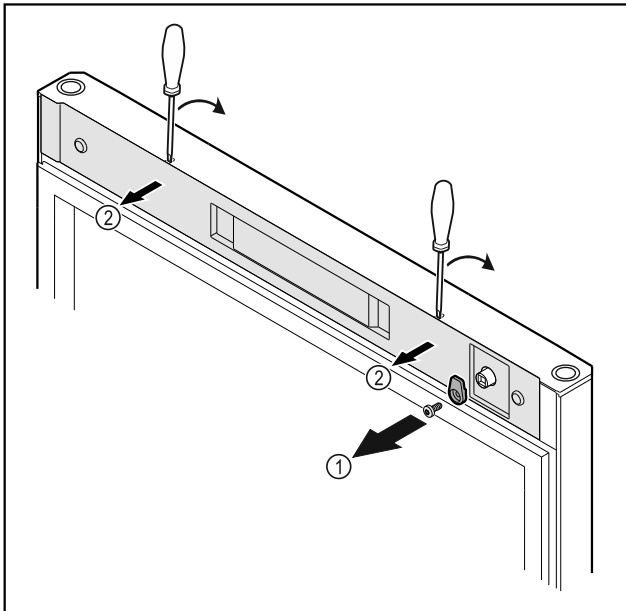

Fig. 12
- Unscrew the door latch Fig. 12 (1).
- Unlatch the cover Fig. 12 (2) with a small screwdriver and remove it.